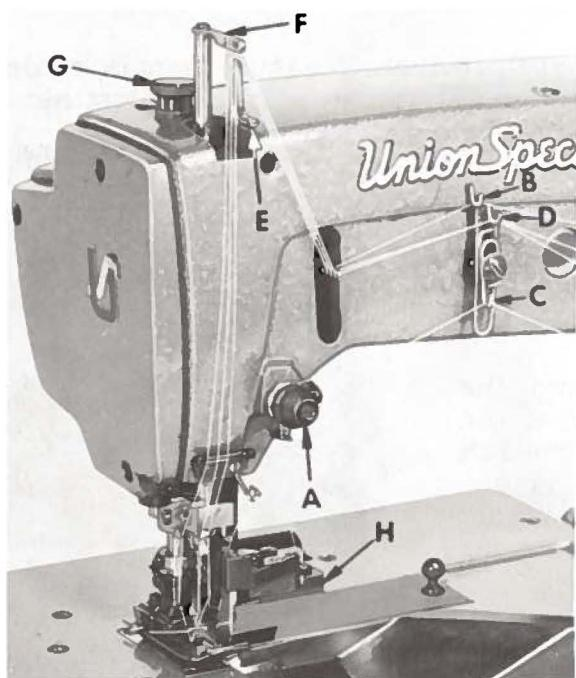

Fig. 13
The spreader thread tension is applied at tension nut (A, Fig. 13). The adjusting nut should be set so that the tension on the spreader thread is $\frac{1}{2}$ ounce or more, depending on the type of thread being used.
Set the 401 stitch needle thread frame eyelet (B, Fig. 13) 1 inch above, and the spreader thread frame eyelet (C), $\frac{1}{2}$ inch below the center of the mounting screw. Set the 602 stitch needle thread frame eyelet (D) as high as possible without drawing thread on the downstroke.
Set the needle thread take-up wire (E, Fig. 13) located adjacent to the needle bar thread eyelet (F) so that its upper surface is even with the top of the holes in the needle bar thread eyelet, when the needle bar has completed its downward stroke. Lower this setting for a smaller needle thread loop, or raise it for a larger loop.
Regulate the presser spring regulating screw (G, Fig. 13) so that it exerts only enough pressure on the presser foot to feed the work uniformly when a slight tension is placed on the fabric. This is the knurled screw, located directly behind the needle bar in the head of the machine. Turning it clockwise increases the pressure, counterclockwise acts the reverse.
NOTE: Upper knife lever thrust bracket (H, Fig. 13) should bear against upper knife lever.